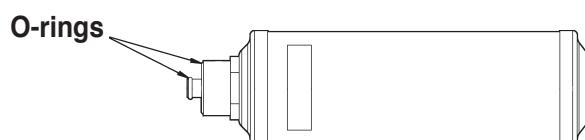

Figure 13
6. Look at the new filter—verify both o-rings are lubricated and correctly located in the grooves. See Figure 13. Thread the new filter into place. Press **START / YES**.